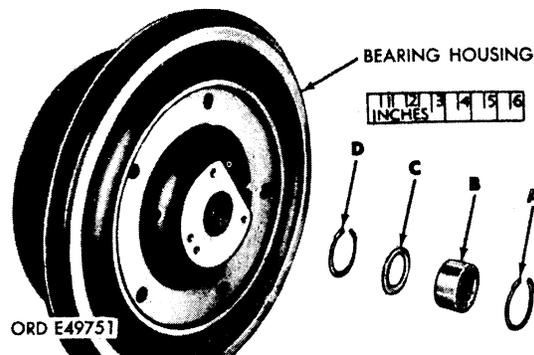

FIGURE 36. REMOVING OR INSTALLING TURBINE END SLEEVE BEARING, THRUST WASHER, AND RETAINING RINGS - TURBOCHARGERS 10912638 AND 53591-C-139552.
b. Refer to figure 36. Remove retaining ring (A), rotor shaft sleeve bearing (B), bearing thrust washer (C), and retaining ring (D). Use pliers - 10935598 to remove retaining rings (A and D).